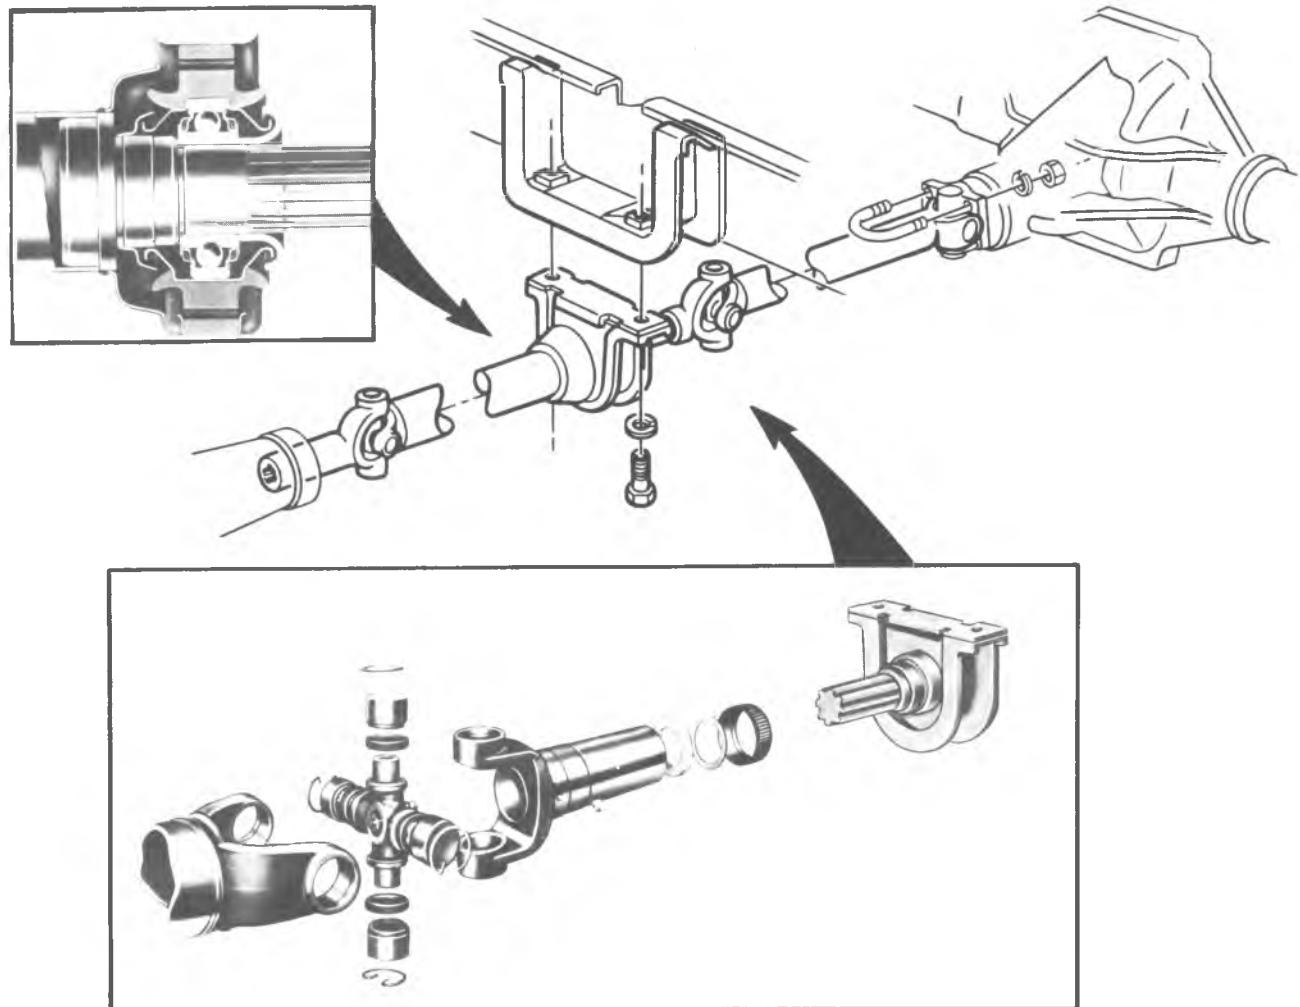

Fig. 27—Propeller Shaft, Universal Joint and Bearing Support
**CENTER SUPPORT BEARING—FIG. 27**